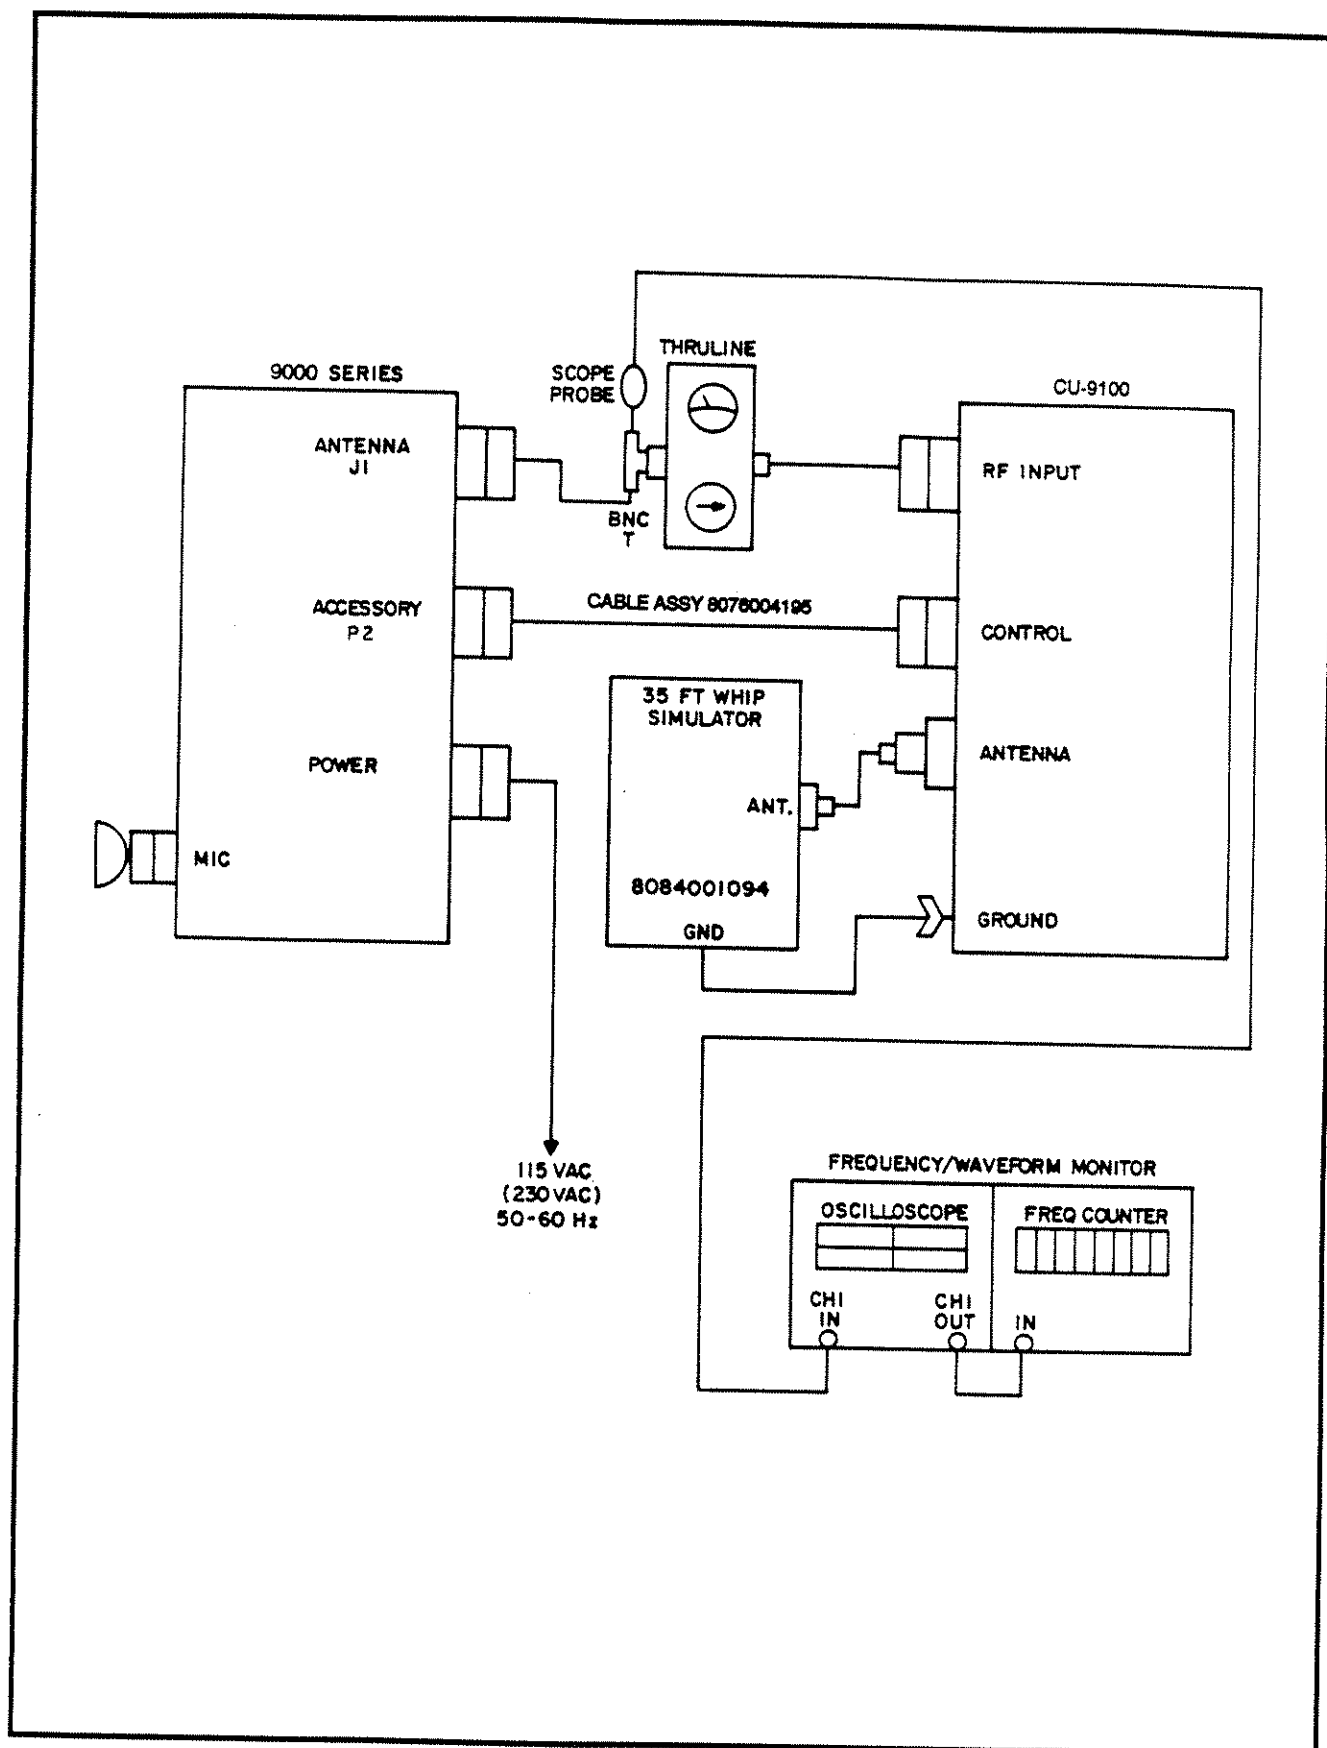

Figure 5.5 Coupler Test Setup.
Connect coupler and test equipment as shown in Figure 5.5. Perform Fault Analysis as outlined in Table 5.1.
PRELIMINARY SETUP FIGURE 5.5
F. Reflected RF Power Detector (HI)
4. Unkey radio and turn POWER switch to OFF. Disconnect meter leads and disconnect 50 ohm dummy load. Remove A3 from extender and remove extender board. Reinstall A3 board in coupler and reconnect RF coax cables, fan plug, and ground straps for normal operation of coupler. Connect test equipment as in Figure 5.5.